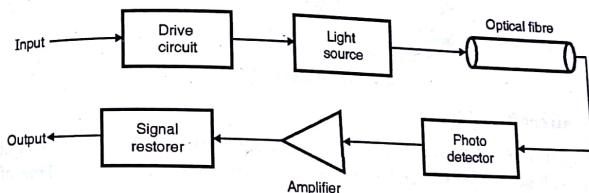

Fig. 5.10.1
(1) Communication system
- The fibre optical communications system is very much similar to that of a traditional communication system. Fig. 5.10.1 shows optical fibre generated by a LED or a laser diode.